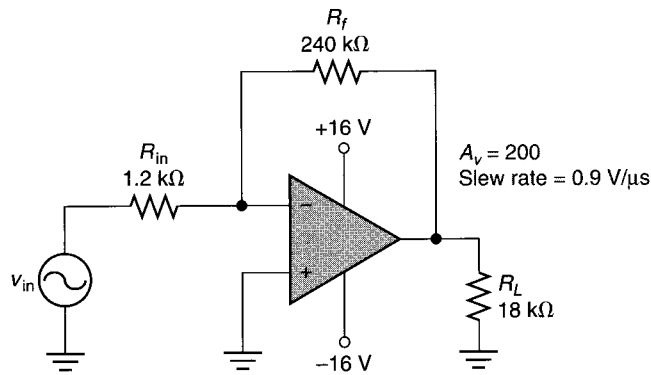

FIGURE 15.54
7. Determine the maximum allowable peak-to-peak input voltage for the amplifier in Figure 15.54.
9. The amplifier in Figure 15.54 has an output offset voltage of 2.4 V. Determine the input offset voltage for the circuit.
11. Determine the maximum operating frequency for the amplifier in Figure 15.54. Assume that the circuit has a 10 mVPP input signal.